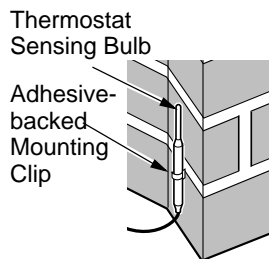
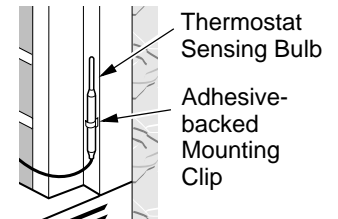
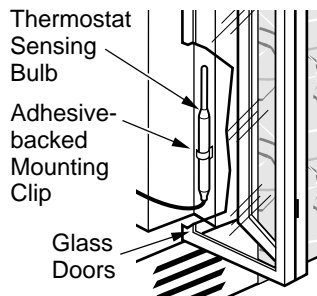

Figure 46 - Locating Thermostat Sensing Bulb on Masonry Fireplace
Figure 47 - Locating Thermostat Sensing Bulb on Factory-built Metal Fireplace
Figure 48 - Installing Thermostat Sensing Bulb behind Glass Doors
3. The thermostat sensing bulb may be located to the lower right front side of fireplace. Determine location of sensing bulb, but do not mount sensing bulb until step 5. If you have a masonry fireplace, see Figure 46 for location. If you have a factory-built metal fireplace, see Figure 47 for location. If your fireplace has glass doors, position sensing bulb directly behind door gap on right bottom side (see Figure 48).